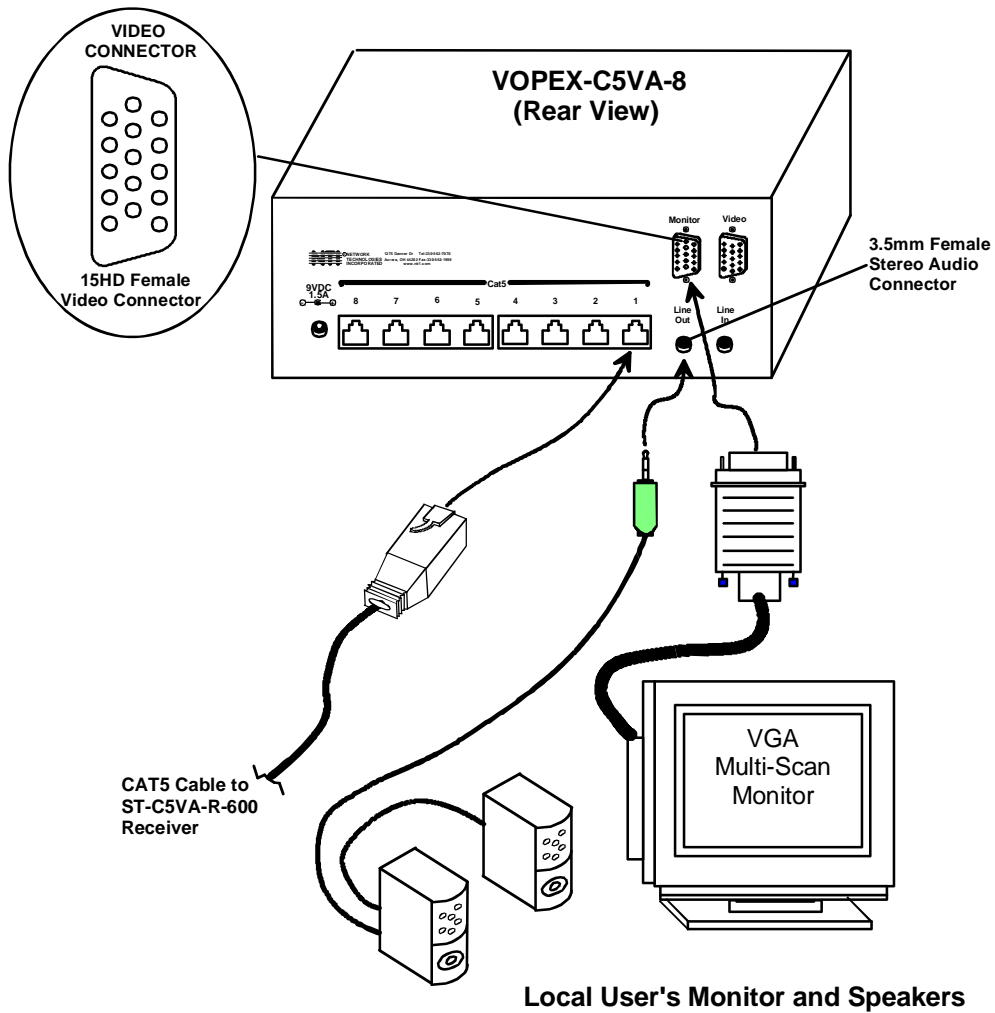

Figure 2- Connect Local User components and CAT5 cable to VOPEX-C5VA-8
2. Connect the local user to the VOPEX-C5VA-x (see Figure 2)
3. Connect a CAT5 cable to any one of the "Cat5x" ports on the VOPEX-C5VA-x. (See Figure 2) When properly inserted the cable end should snap into place.